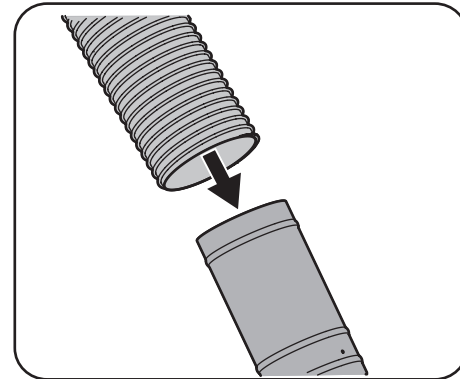

Figure 4-22
2. Slide the chute tube over the chute elbow mounted on the cutting deck, as shown in Figure 4-22.